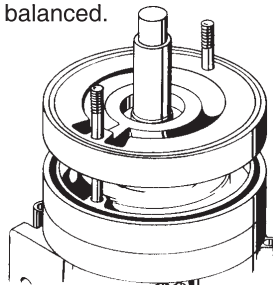

Figure 4-8
11. Slide another left hand channel ring (#10) into place with the water channel facing up.(refer to figure 4-8) This time, however, place the large inlet opening in the “five o'clock” position. By locating successive stages 180 degrees from the last, hydraulic loads are radially balanced.